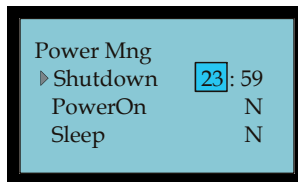

Figure 2-104 Shutdown Screen
2. Press **OK** to enter shutdown time of day in 24 hour format (see **Figure 2-104**). Use “▲/▼” to move between hours and minutes and the keypad to enter time.